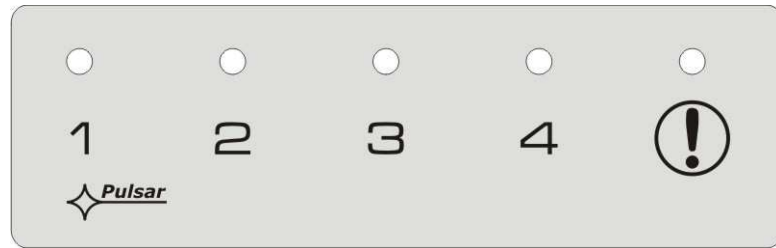

Fig. 4. The view of the PSU panel.
3.1. LED indication (fig. 4.).